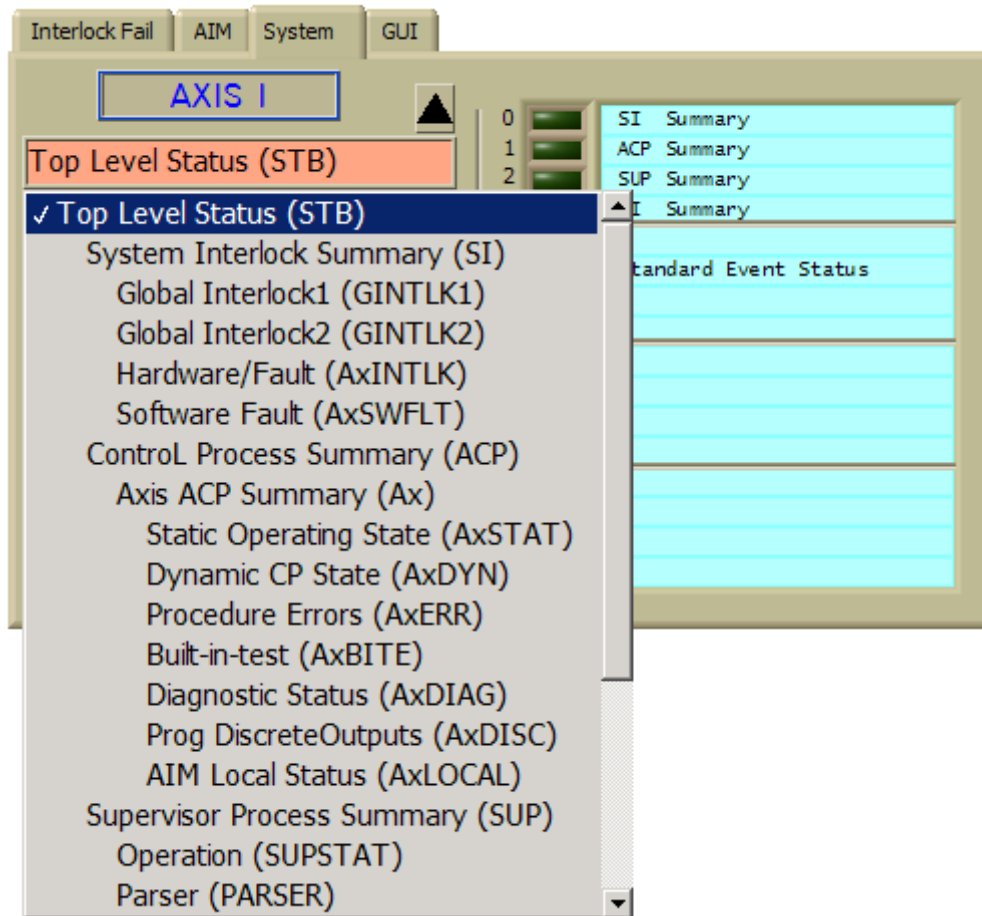

Figure 4-25 System Status Registers
1. Select the top-level status byte (STB) using the Status Register Pickbox. See Figure 4-25.